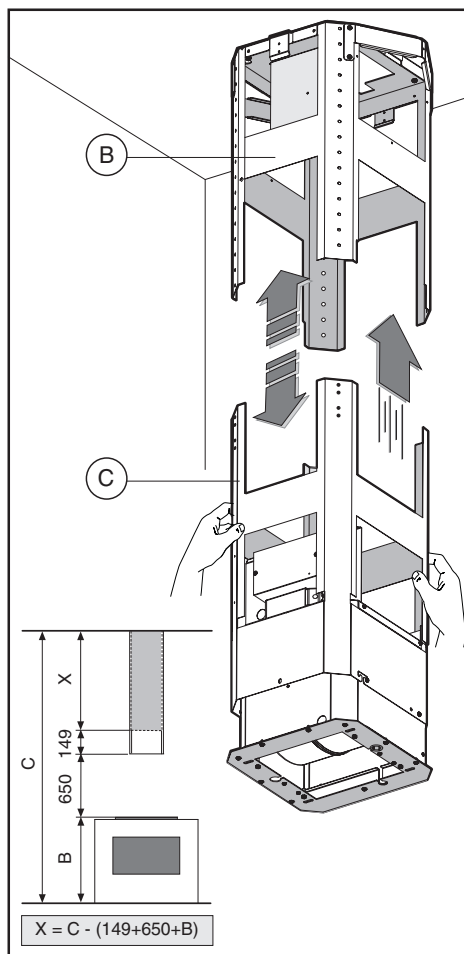
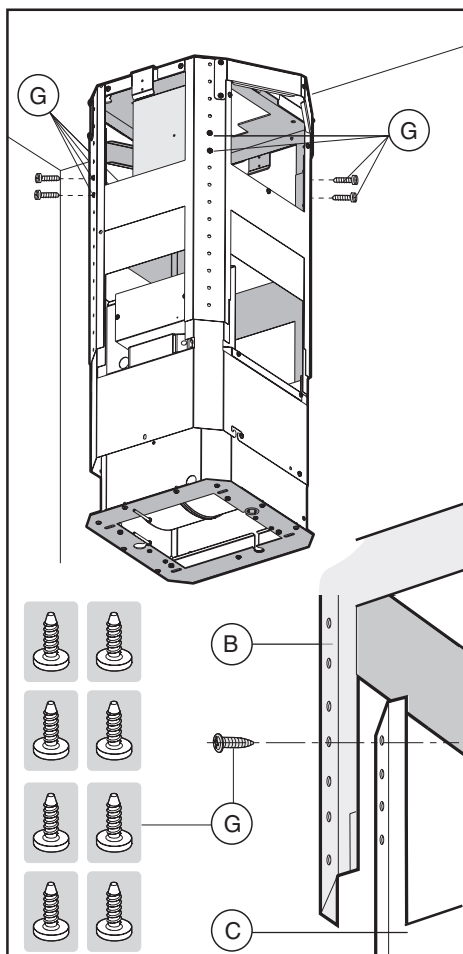

Fig.6
Fig.7
- Take the lower part of the telescopic structure **C** and insert it into the upper structure **B** (fig.6).
To avoid scratching the upper duct, first adjust its height as desired, using the measurements given in (Fig. 6) as a reference, and then fix it in place using the 8 screws provided **G** (Fig. 7).